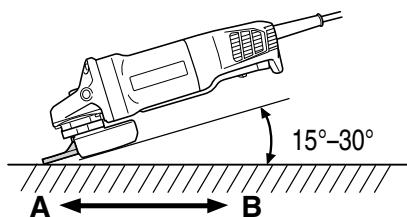

Fig. 5
Do not apply the entire surface of the depressed center wheel to the material to be ground. As shown in **Fig. 5**, the machine should be held at an angle of 15° – 30° so that the external edge of the depressed center wheel contacts the material at an optimum angle.
4. To prevent a new depressed center wheel from digging into the workpiece, initial grinding should be performed by drawing the grinder across the workpiece toward the operator (**Fig. 5 direction B**).